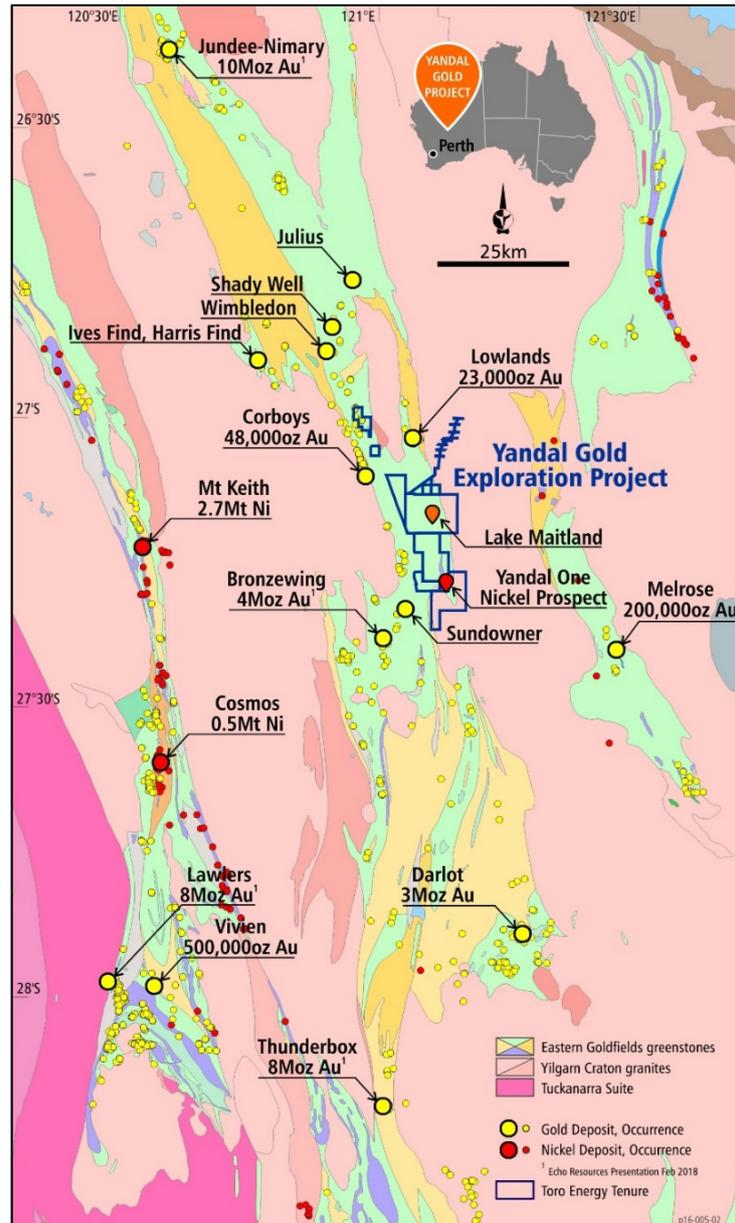
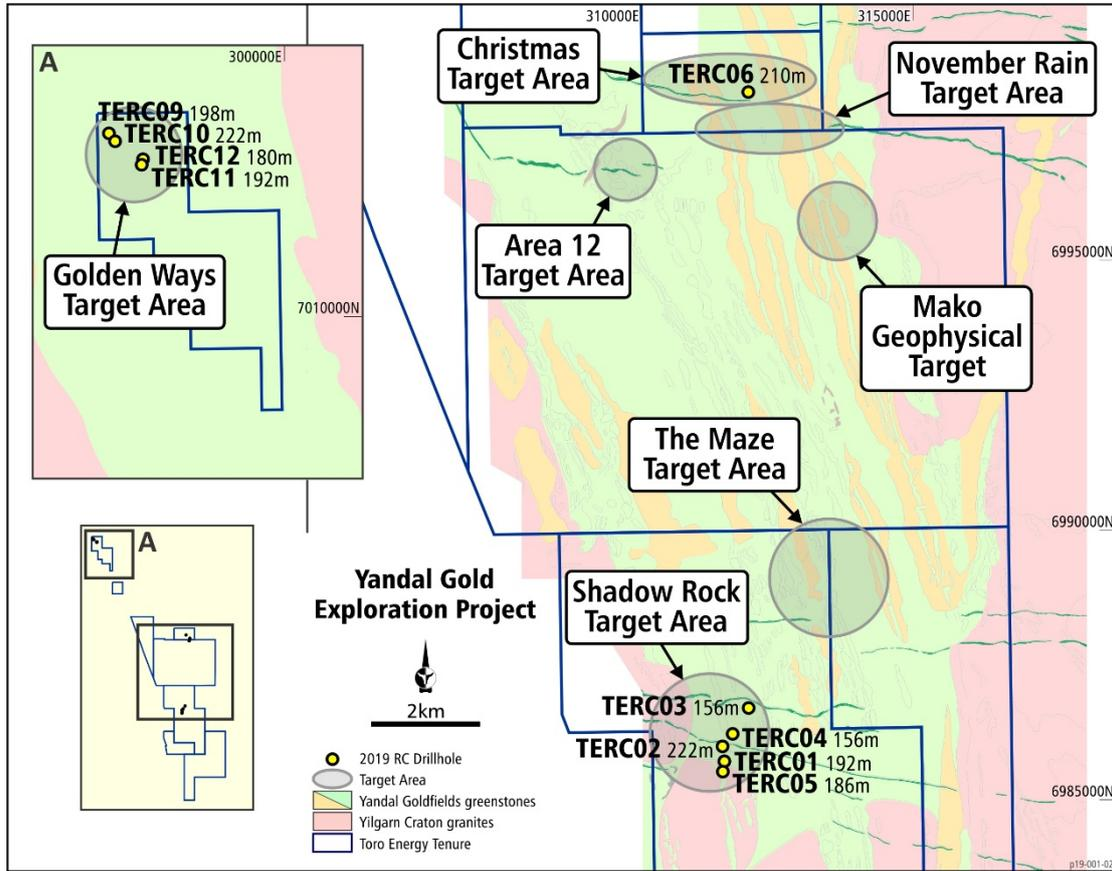

Figure 1: Location of Toro's Yandal Gold Project within the high yielding Yandal Gold District
Figure 2: Location of RC drill holes completed to date in the current drilling programme (see text for details).
Toro Energy Limited (ASX: TOE) ('the **Company**' or '**Toro**') is pleased to announce that geochemistry results from a limited number of surface rock chip samples collected during a recent geological mapping campaign on the Company's 100% owned Yandal Gold Project ('the **Project**') (**Figure 1**) confirm the potential for high grade gold in a significant quartz vein hosted gold system in the Golden Ways Target Area (**Figure 2**).
Toro's 100% owned Yandal Gold Project is located within the world class gold district, the Yandal Greenstone Belt, less than 35km NE of the multi-million ounce Bronzewing Gold Mine (**Figure 1**). The Yandal Gold Project is also only some 50km east of the world class Mt Keith Nickel Mine.
An extensive aircore drilling campaign conducted over late 2018 and early 2019 incorporated only a few of these structural targets (refer to the Company's ASX announcement of 17 October 2018) identified six (6) main target areas for gold exploration, including a number of gold and nickel-copper-platinum group element (PGE) geochemical anomalies in top-of-basement rock. These target areas are now known as Christmas (gold and gold-nickel-copper-PGE anomalies over structural targets), November Rain (gold and gold-nickel-copper-PGE anomalies over structural targets), Area 12 (gold over structural target), Mako (magnetic and gravity geophysical target), The Maze (gold anomalies over structural targets) and Shadow Rock (gold anomalies over structural targets) (**Figure 2**).